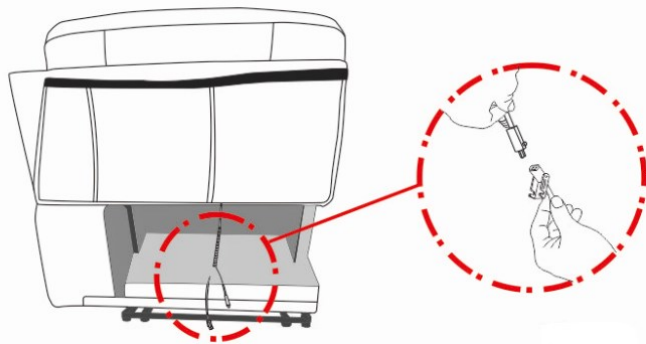

Figure 2
3. On all seats, connect the two power cables for the Power Headrest (Figure 2). Velcro all backs down onto the base.